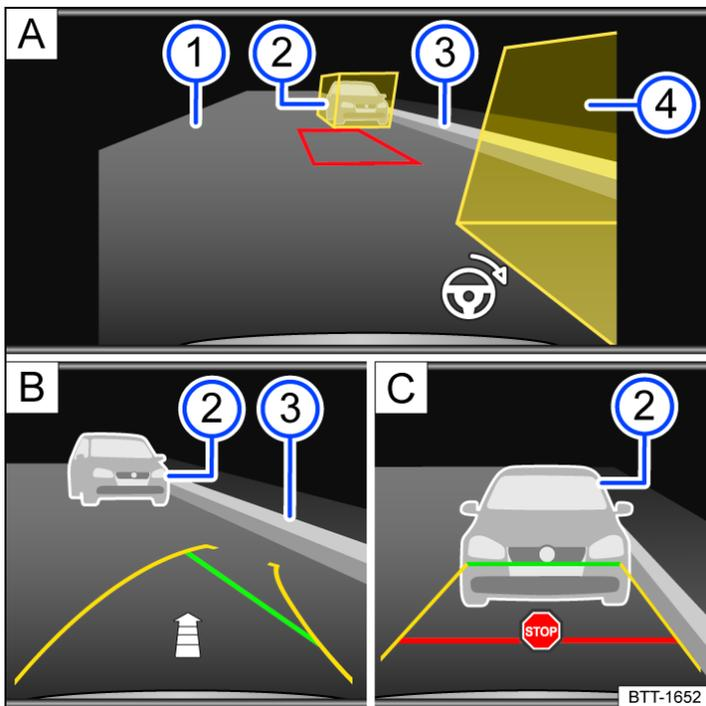

Fig. 2 Infotainment system: Parking parallel to the road.
- ① Road surface.
- ② Obstacle or assisting box.
- ③ Side boundary of the parking space.
- ④ Obstacle or assisting box.
4. Position the vehicle at a distance of approximately 1 m(3 ft) parallel to the parking row. The yellow assisting boxes must cover the obstacles → *fig. 2* Ⓐ ② or ④. The area in between must be free of obstacles.
5. Select the reverse gear. A red frame represents the target position of your vehicle → *fig. 2* Ⓐ.